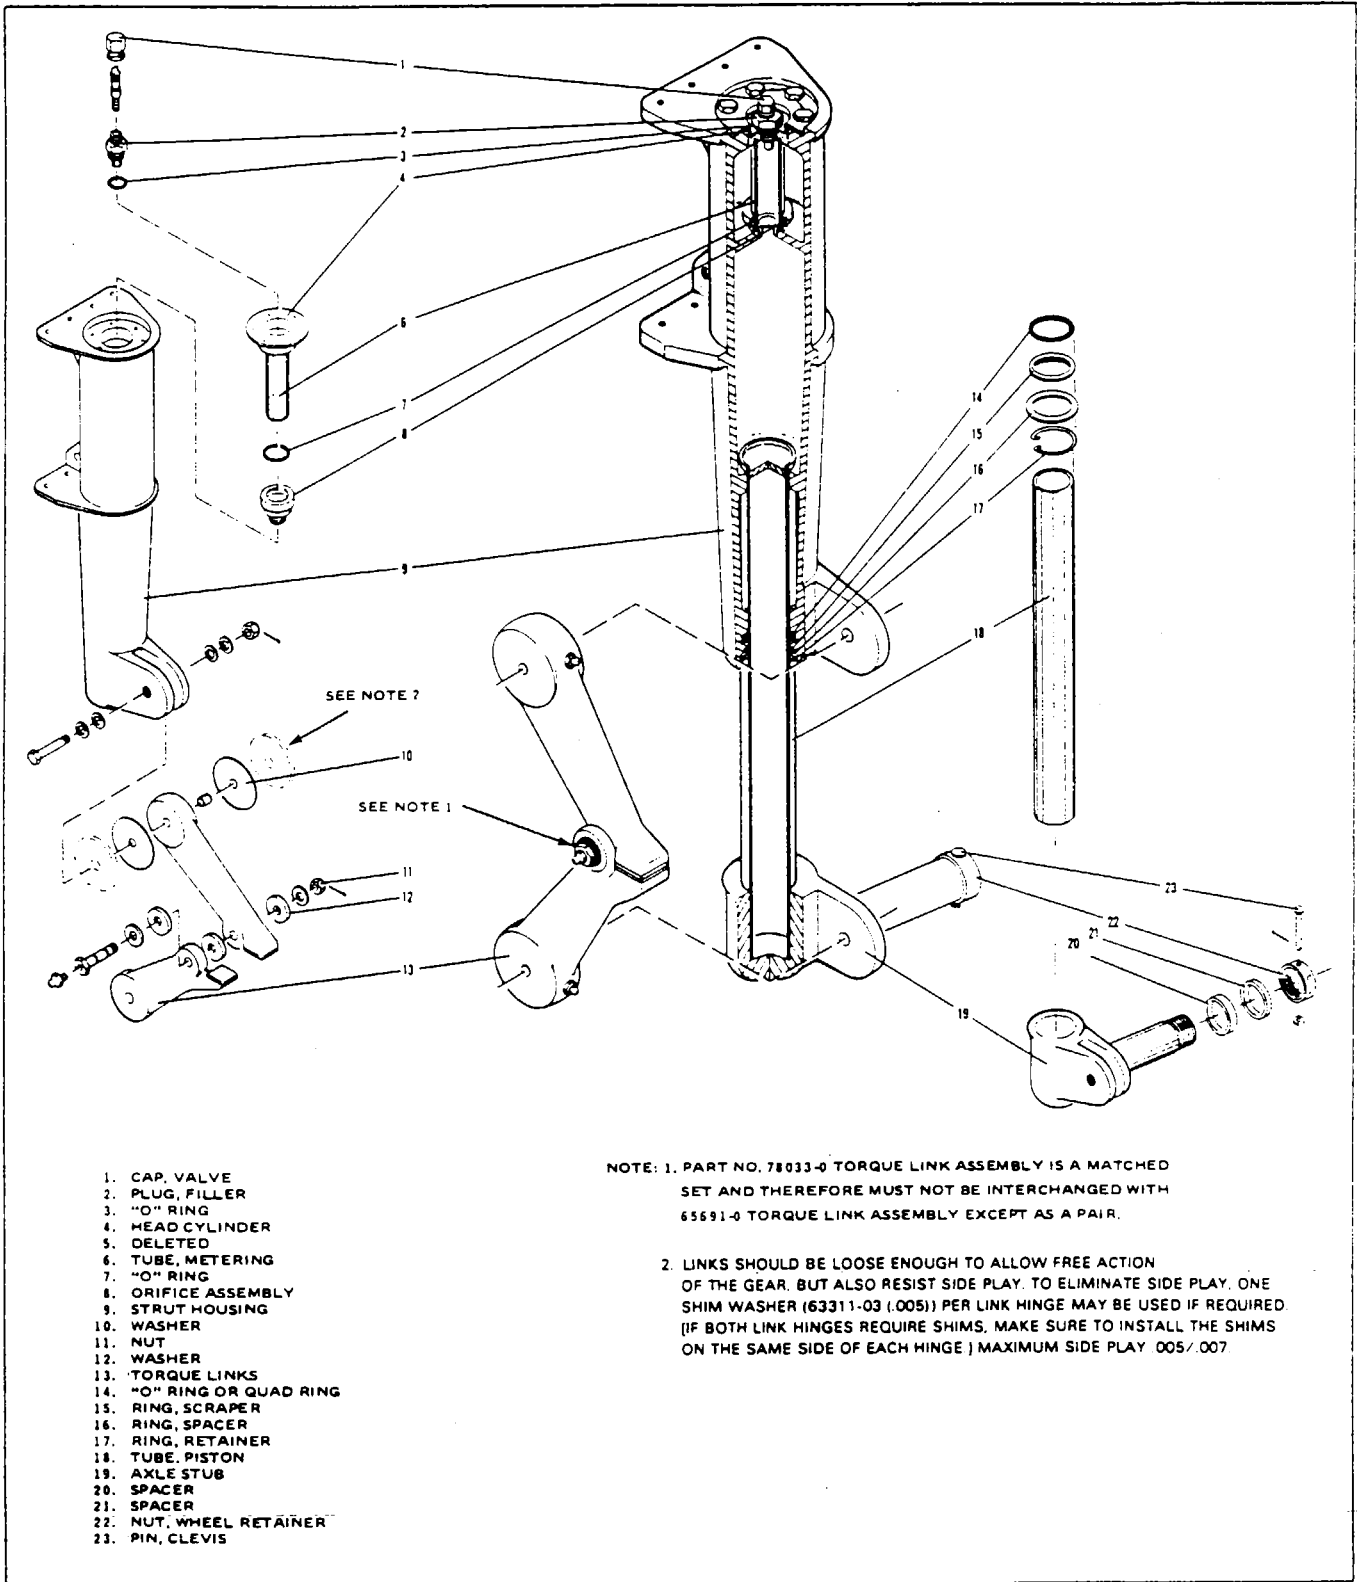
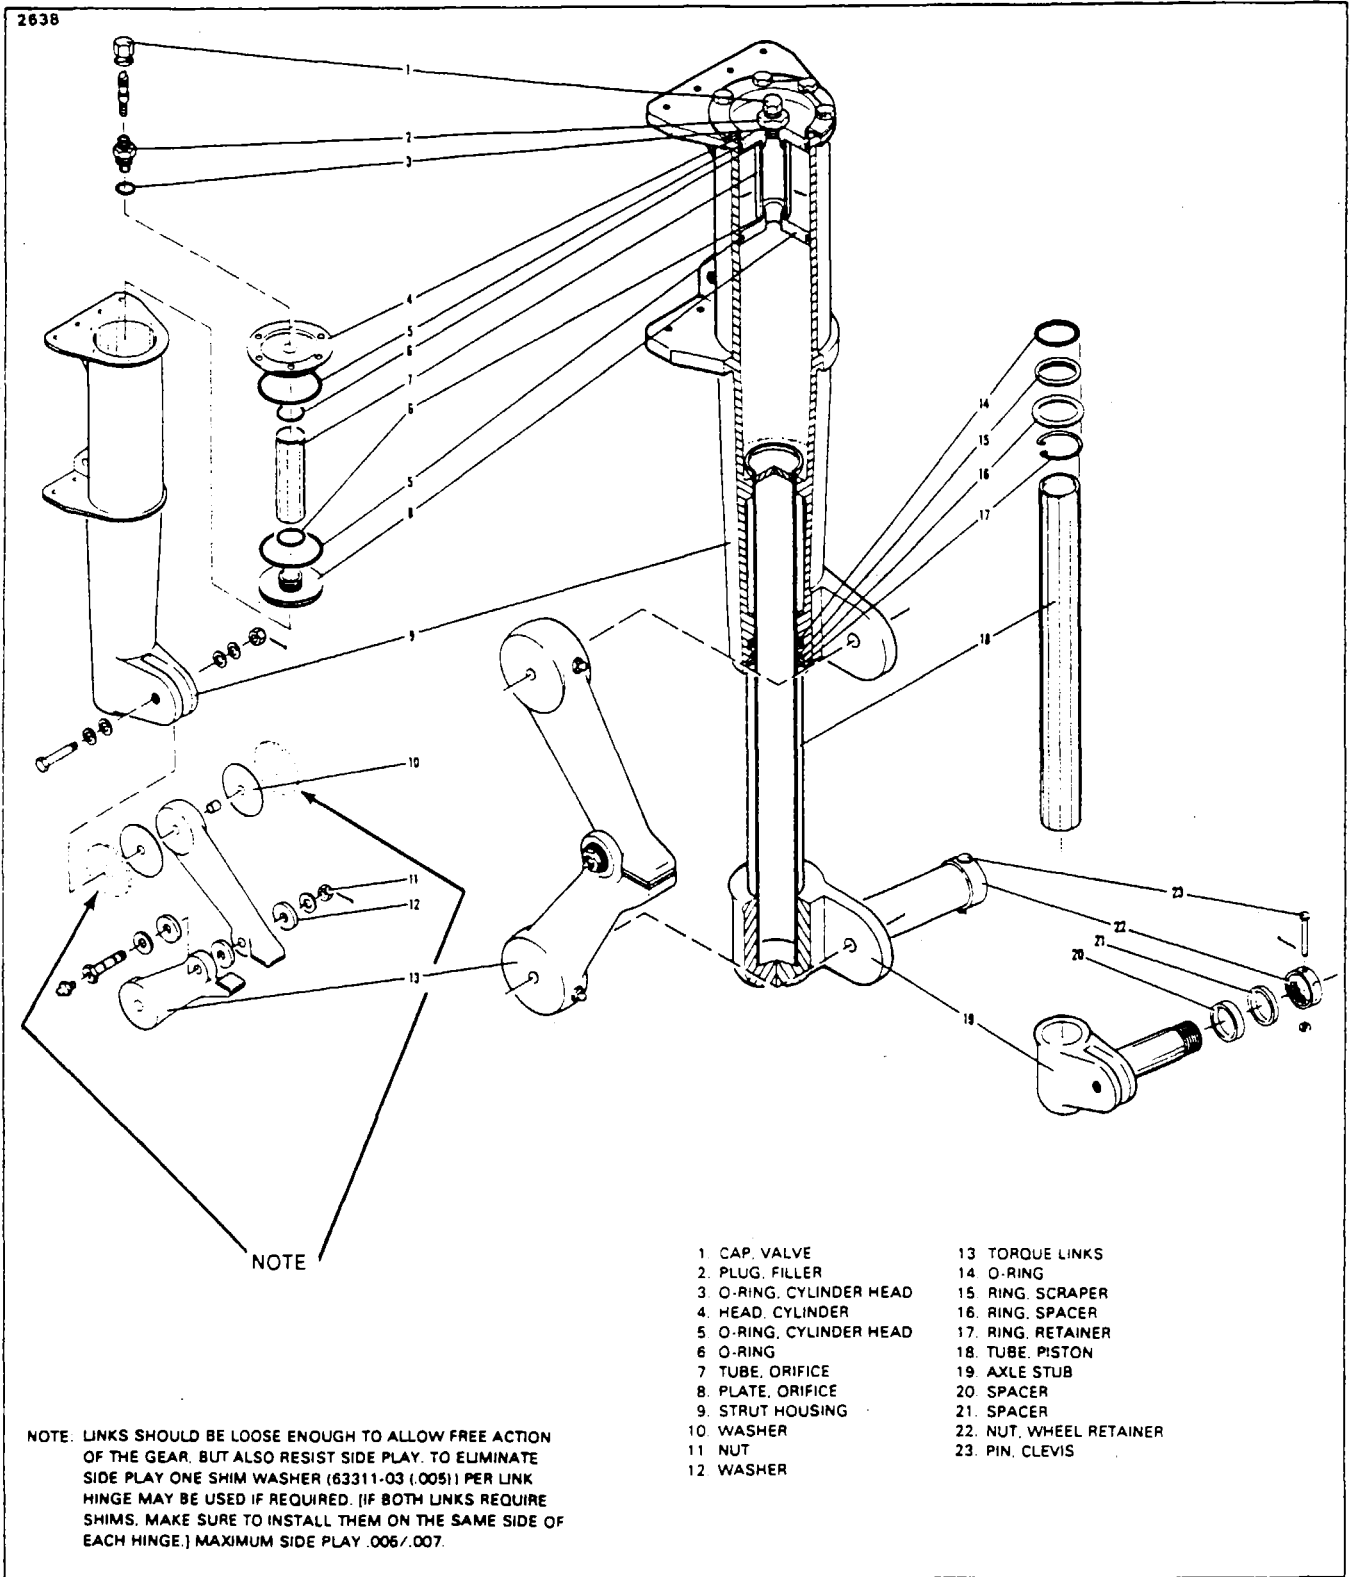

Figure 6-5. Main Gear Oleo Strut Assembly, Cylinder Housing 65319
Figure 6-6. Main Gear Oleo Strut Assembly,
6-14. DISASSEMBLY OF MAIN GEAR OLEO. (Refer to Figure 6-5 or 6-6.) The main gear axle (19) and piston tube assembly (18) may be removed from the cylinder housing (9) with the gear removed from or installed on the airplane. The metering components of the gear, located in the top of the housing, may be removed only with the gear removed from the airplane.
4. The scraper ring (15) located inside the lower end of the cylinder housing may be removed by first removing the retainer ring (17), spacer ring (16) and then the scraper ring.
5. The "O" ring seal (14) located just above the scraper ring, may be removed by using a curved wire or spoon shaped tool and inserting it under the ring.
1. Cylinder Housing 65319: (Refer to Figure 6-5.)
- (a) Cut safety wire and remove the bolts that secure the cylinder head (4) with metering tube (6) in the top of the housing. Remove the assembly from the housing.
- (b) The orifice assembly (8) may be removed from within the housing by rotating it counterclockwise out of the housing with the use of a .50 x .125 stud type spanner wrench. Do not remove orifice unless it necessitates replacement.
2. Cylinder Housing 65441: (Refer to Figure 6-6.)
- (a) Cut safety wire and remove the bolts that secure the head assembly (4) on the top of the housing. Remove assembly with components from the housing.
- (b) The head assembly may be disassembled by turning the head (4) and the orifice plate (8) from the orifice tube (7).
#### 6-16. ASSEMBLY OF MAIN GEAR OLEO. (Refer to Figure 6-5 or 6-6.)
- a. Install the metering components within the upper portion of the gear housing. Of these, there are two types of housings and metering components identified by a casting number on the housing and by the distinct shape and size of the metering components as shown in Figures 6-5 and 6-6. The metering components may be installed as follows:
- (a) Lubricate with hydraulic fluid (MIL-H-5606A) and install an "O" ring (7) in the annular slot in the metering orifice (8).
Links should be loose enough to allow free action of the gear, but also resist side play, see Figures 6-5 and 6-6. For lubrication of links, refer to Section II.